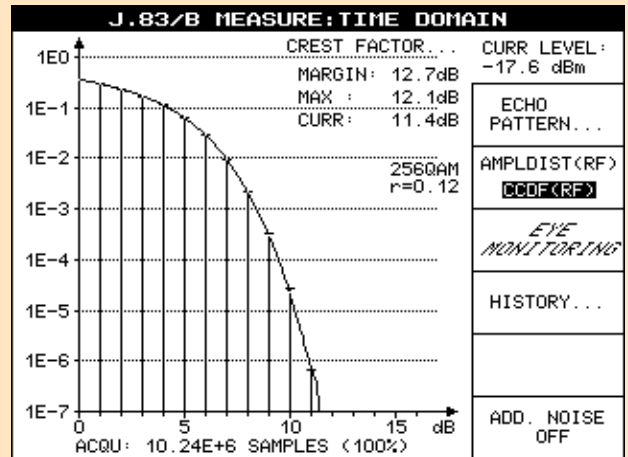

Fig. 23: History function
- ◆ History function: long-term monitoring of transmission parameters (Fig. 23)